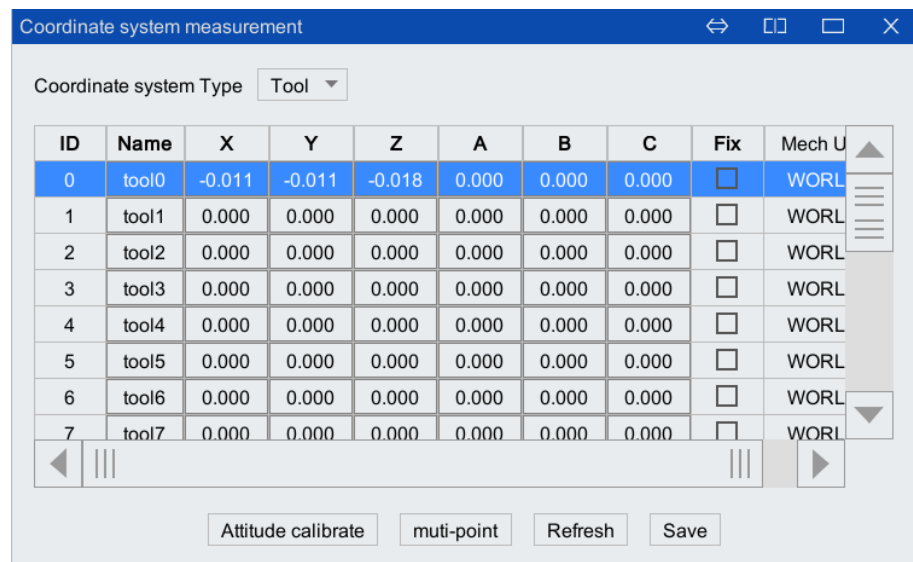

Figure 5-2 Select the row where the tool coordinate system is located
Step2. Select "Tool" in [Coordinate System Type], and click to select the row of the tool coordinate system to be calibrated, as shown in Figure 5-2.